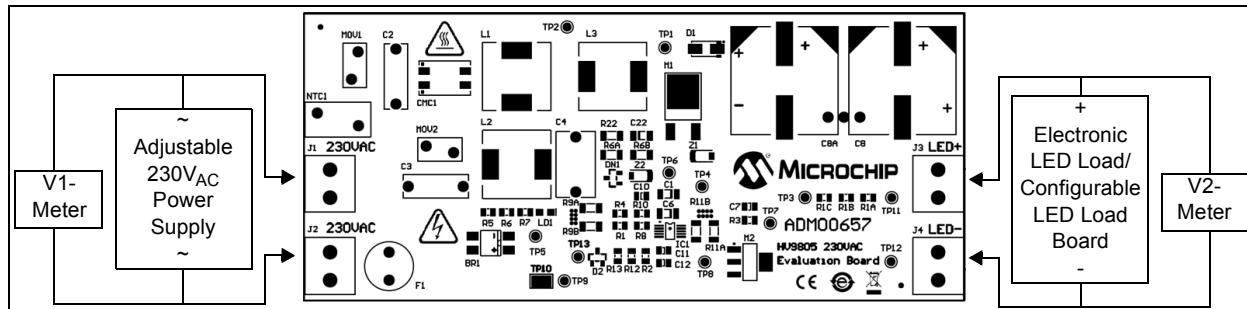
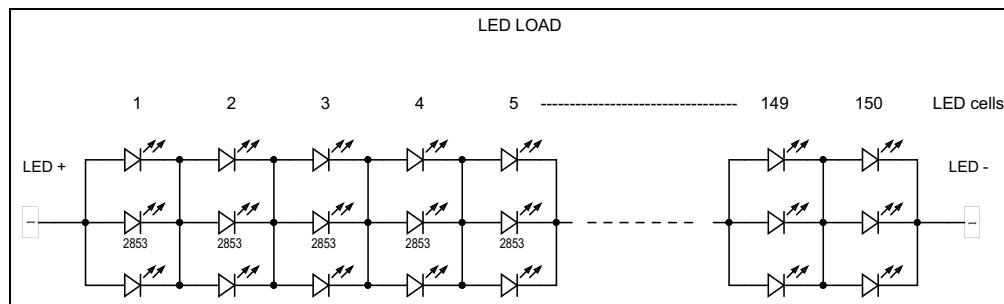

FIGURE 2-1: Connection Diagram.
FIGURE 2-2: LED Load String Example.
- The input connectors, J1 and J2, are placed on the left side of the board and marked 230V_{AC}, as shown in Figure 2-1.
2. Connect a voltmeter and the LED string at J3 (V+ LED) and J4 (V- LED) connectors, as shown in Figure 2-1. The LED string can be formed with 132 to 150 LED cells (3 LEDs in parallel), 80 mA SMD LED, 280 mW. An example is shown in Figure 2-2.